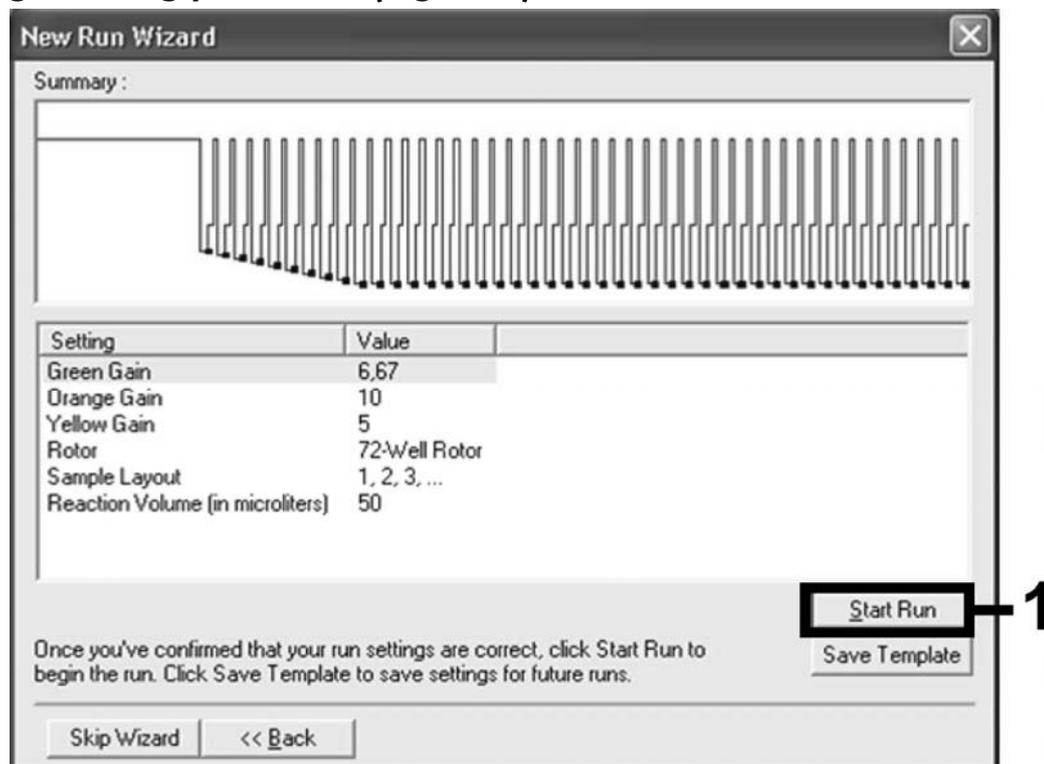

Figure 7. Starting the run.
Starting the run	Figure 7
- The gain values determined by the channel calibration are saved automatically and are listed in the last menu window of the programming procedure (Figure 7). Click "Start Run".